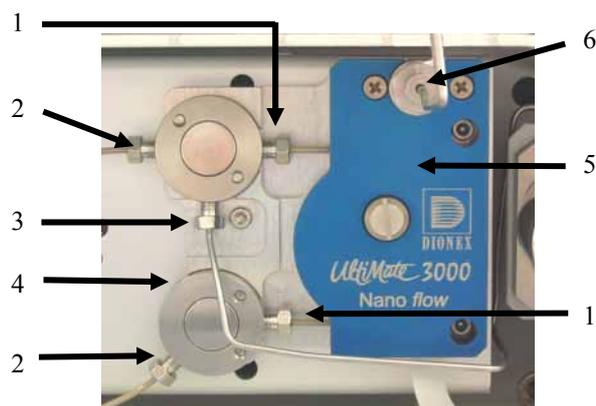

Fig. 22: Flow Splitter
The flow manager is equipped with a flow splitter (→ Fig. 22) that delivers the low flow rates required for capillary, micro, and nano HPLC applications. Splitter cartridges with different split ratios are available for the different applications.
**⚠ Important:** The flow sensor connectors (→ Fig. 22, no. 2) and the flow control valve connectors (→ Fig. 22, no. 3) are installed in the factory. They should not be opened by the user.
**⚠ Important:** Les raccordements au capteur de débit (→ Fig. 22, no. 2) et à la vanne de régulation de débit (→ Fig. 22, no. 3) sont effectués en usine. Ils ne doivent pas être modifiés par l'utilisateur.
- ◆ Connect the capillary to the flow splitter (→ pump connector, Fig. 22, no. 6).
2. Establish the connection to the capillary connector (→ Fig. 22, no. 4) as required by your application. For the system structure shown in Fig. 10, connect the capillary to the flow manager's right switching valve (port 4; → page 32).
1. Disconnect the capillary on the flow splitter's pump connector (→ Fig. 22, no. 6).